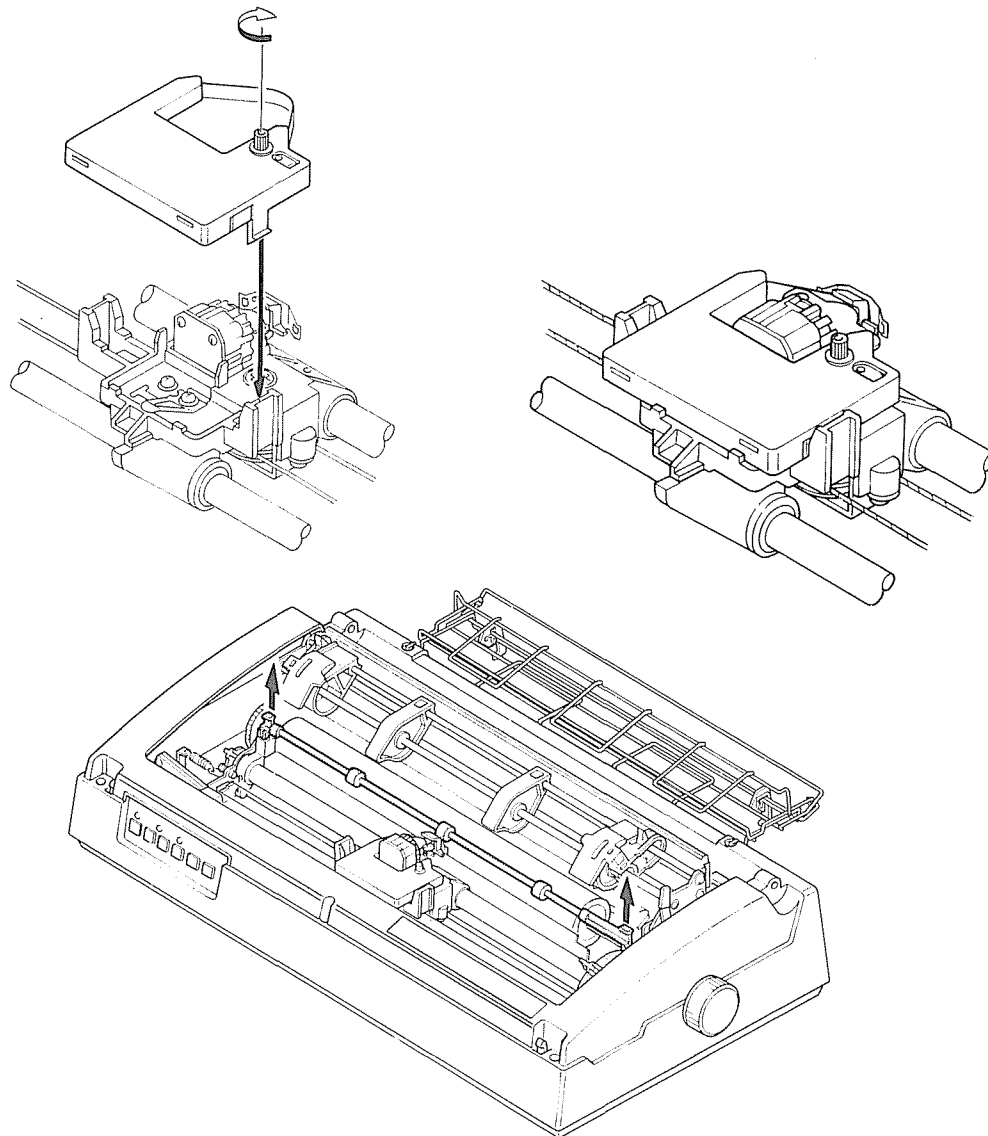

Figure 9. Installed Ribbon Cassette
8. Move the Carriage back and forth manually to check that the ribbon advances properly. If the ribbon has not been properly fitted between the paper and Print Head (i.e., into the Print Head Ribbon Guide Bezel), the Ribbon feed will not operate smoothly. (See Figure 9.)